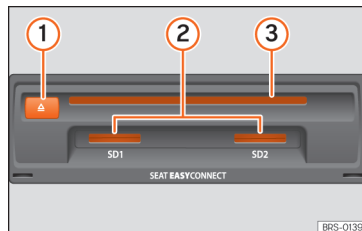

Fig. 216 Slots for data storage devices in the glove compartment.
- Push the CD or DVD into the DVD slot **»»» Fig. 216 ③** to the point where it is drawn in automatically. **»»**
Insert the compatible memory card, bevelled edge first and with the label face up (contacts face down), into slot  **Fig. 216** ②, until properly inserted.